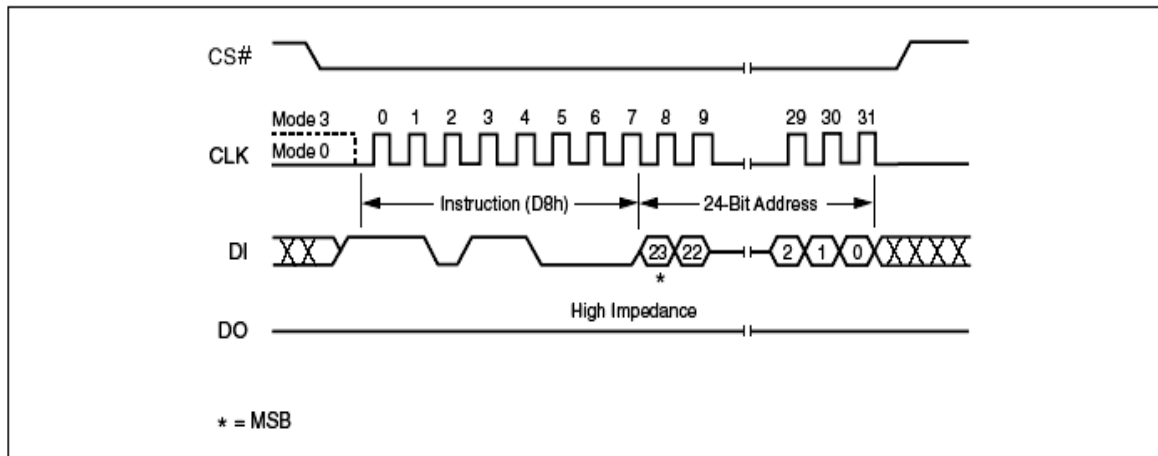

Figure 30. 64KB Block Erase Instruction Sequence Diagram
The instruction sequence is shown in Figure 30. Chip Select (CS#) must be driven High after the eighth bit of the last address byte has been latched in, otherwise the Block Erase (BE) instruction is not executed. As soon as Chip Select (CS#) is driven High, the self-timed Block Erase cycle (whose duration is t_{BE}) is initiated. While the Block Erase cycle is in progress, the Status Register may be read to check the value of the Write In Progress (WIP) bit. The Write In Progress (WIP) bit is 1 during the self-timed Block Erase cycle, and is 0 when it is completed. At some unspecified time before the cycle is completed, the Write Enable Latch (WEL) bit is reset.